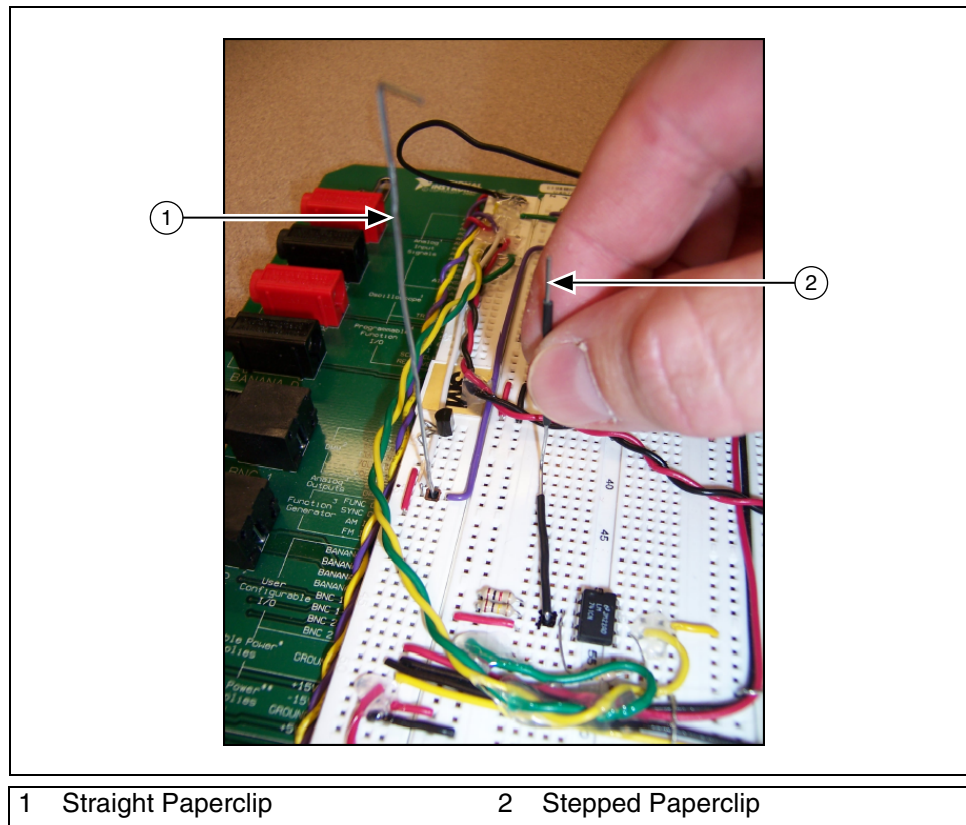

Figure 9-1. Paperclip Antenna
2. Insert the short end of the paperclip into a pin socket. The mid-section supports the antenna on the protoboard and allows you to rotate the antenna about the short end. The long side sits vertical and is parallel to the transmitter antenna, as shown in Figure 9-1.